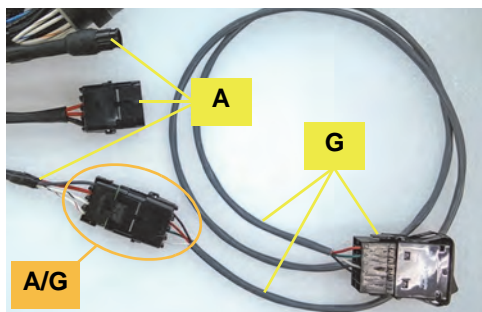

Figure 1d: Connecting the pump switch cable
- d. Connect pump switch cable **G** to the 4-pin connector on interface cable **A** (Figure 1d).